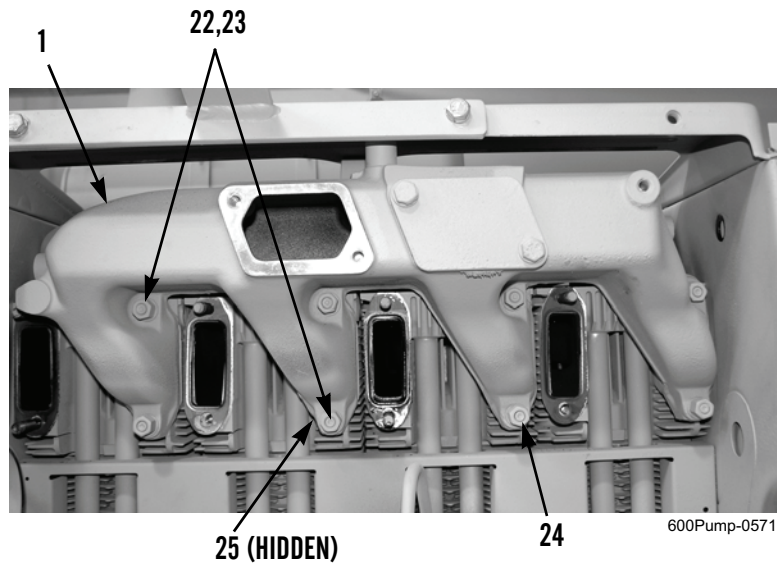
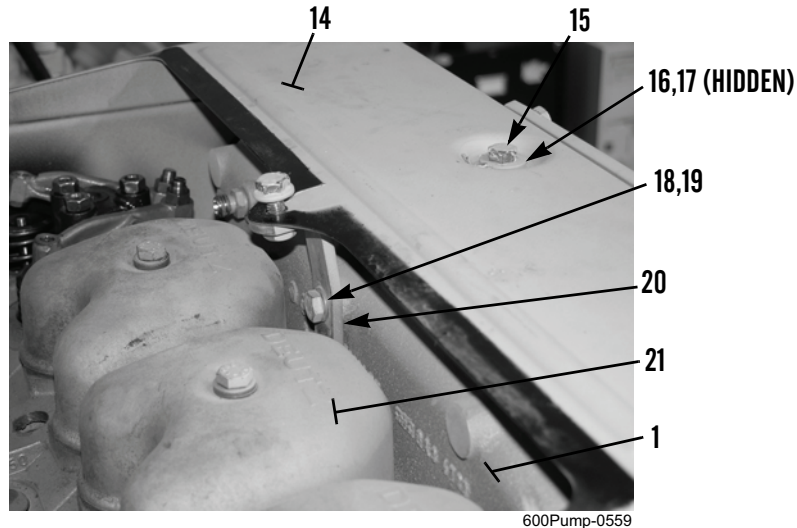

Figure 5. Intake Manifold.
Figure 6. Upper Cooling Air Duct Panel and Intake Manifold.
7. Remove eight nuts (Figure 5, Item 22), washers (Figure 5, Item 23), intake manifold (Figure 5, Item 1), and four gaskets (Figure 5, Item 25) from cylinder head studs (Figure 5, Item 24). Discard gaskets.
1. Install four new gaskets (Figure 5, Item 25), intake manifold (Figure 5, Item 1), eight washers (Figure 5, Item 23), and nuts (Figure 5, Item 22) to cylinder head studs (Figure 5, Item 25). Tighten nuts to 186 ± 18 lb-in. (21 ± 2 Nm).
2. Install spacer (Figure 6, Item 17), washer (Figure 6, Item 16), and bolt (Figure 6, Item 16) to upper cooling air duct panel (Figure 6, Item 14) and intake manifold (Figure 5, Item 1).
3. Install angle bracket (Figure 6, Item 20) to intake manifold (Figure 6, Item 1) with two washers (Figure 6, Item 19) and bolts (Figure 6, Item 18).
4. Install valve cover (Figure 6, Item 21) to 2nd cylinder head back from front of engine (WP 0079).
5. Connect injector line (Figure 7, Item 12) to fitting (Figure 7, Item 13) on intake manifold (Figure 6, Item 1).